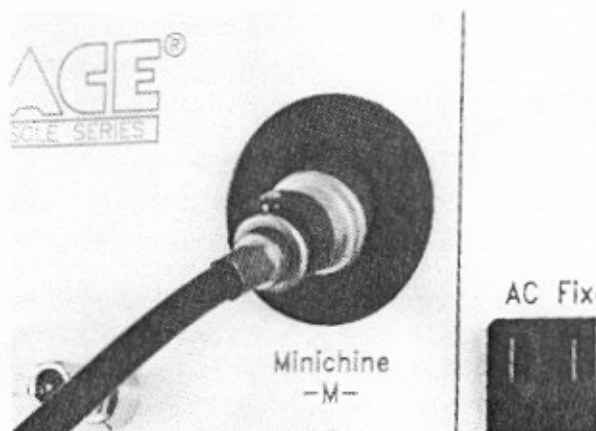

FIGURE 3. MINICHINE CONNECTION
- insert the Flex Shaft into the Minichine drive output (refer to Figure 3). Tap Foot Pedal to rotate drive for easy engagement. Double detent of Minichine cable provides *ready* and *run* position. (**NOTE:** Rotational power for the Minichine is activated with the Foot Pedal or the Motor/Pump Switch in the "CONT" position).